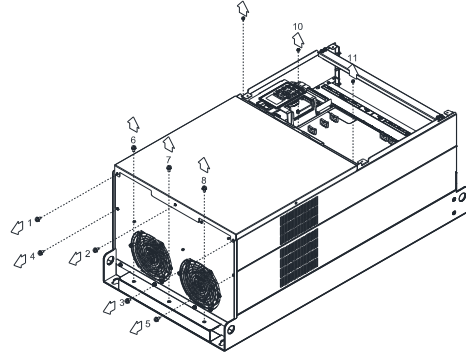

Figure 2
2. For 1–8 shown in the figure 2: Loosen the screws
3. For 9–10 shown in the figure 2: Loosen the screws and remove the cover. Screw M4 torque: 14–16 kg-cm / [12.2–13.9 lb-in.] / [1.4–1.6 Nm]